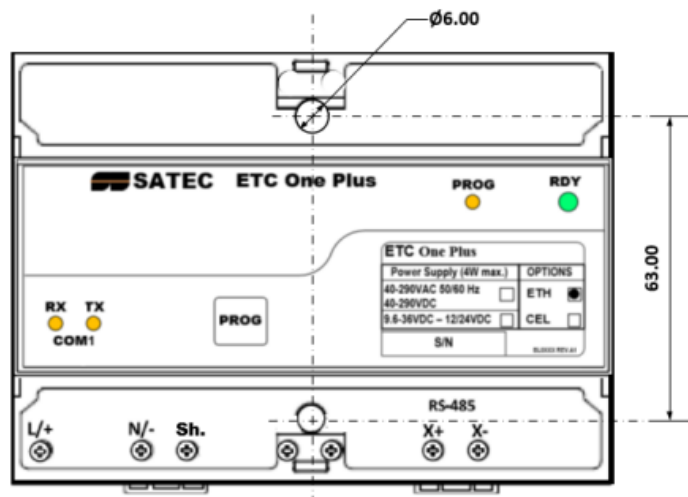

Figure 2-2 Surface mounting
1. Position the device on the wall according to the hole locations as shown in Figure 2-2